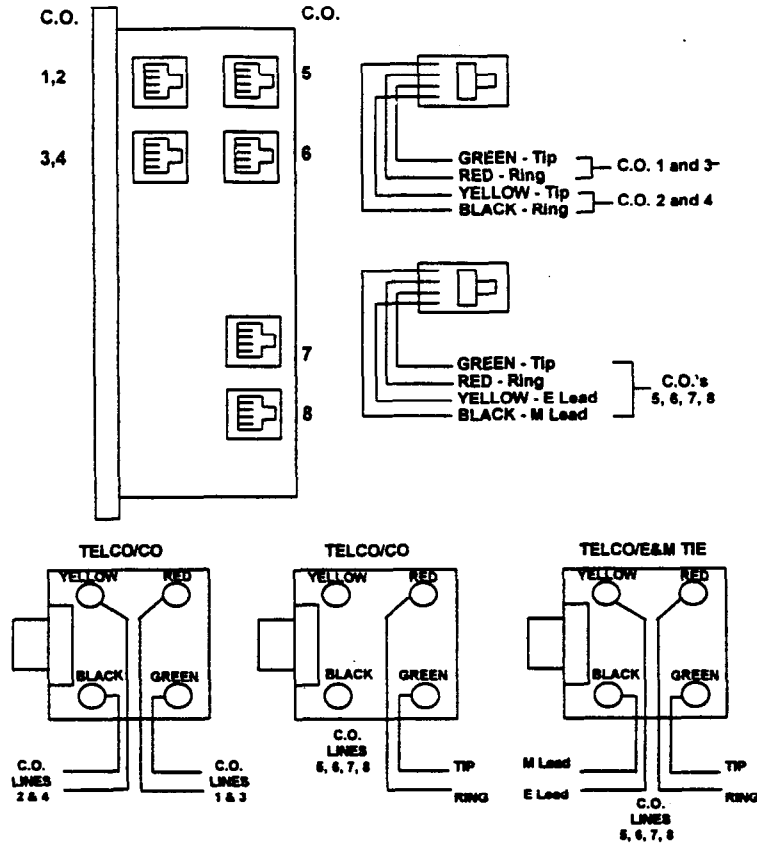

Figure 10
- Terminate the keyset/SLT end of each station cable on a 4-conductor modular jack assembly as shown in Figure 10.
2. Connect the wires at the other end of the cord to a connecting block. See Figure 10.